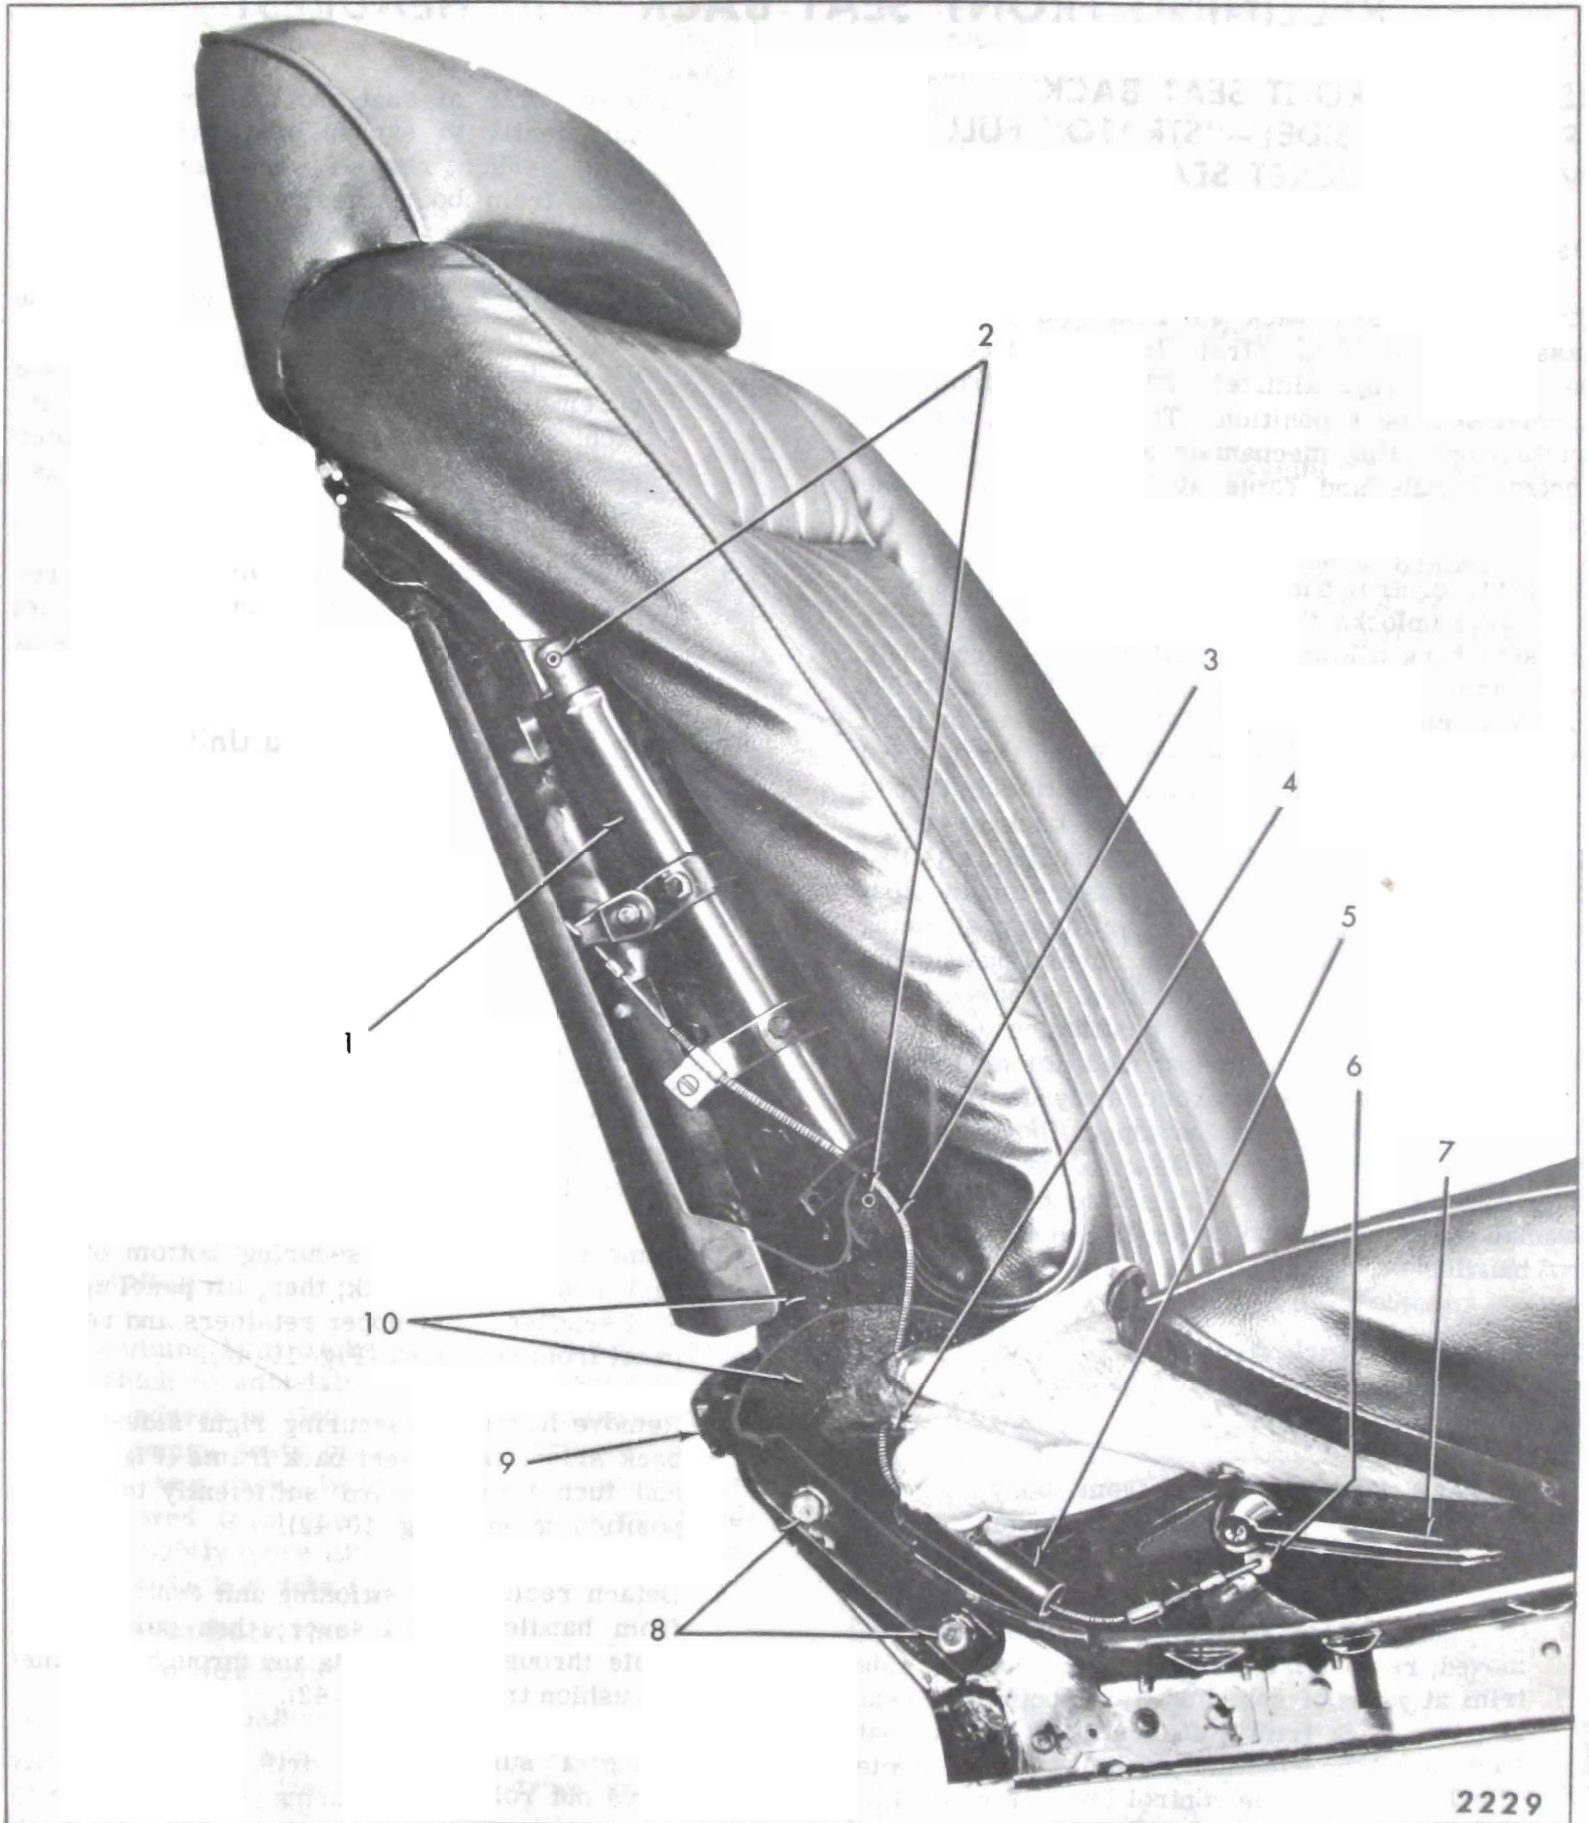
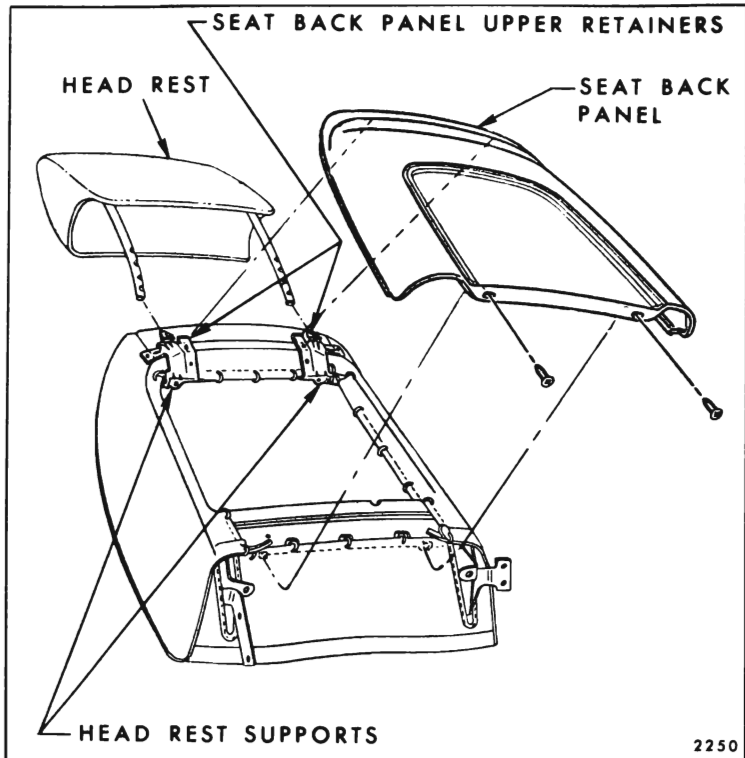

Fig. 10-42—Reclining Seat Back and Positioning Unit
Fig. 10-43—Strato Seat Back Panel and Headrest
2. On right side of seat with seat side panel removed, remove hog rings securing cushion side trim at rear of seat and along bottom of seat and turn back trim sufficiently to expose seat back attaching bolts and reclining control cable attachment at handle control lever (Fig. 10-42).
3. Detach reclining positioning unit control cable from handle control lever; then pull control cable through cable guide and through grommet in cushion trim (Fig. 10-42).
5. To install seat back assembly, reverse removal procedure. Make certain side panel support (Fig. 10-42) is secured under seat back outer attaching bolts.
2. On right side of seat with seat side panel removed, removed hog rings securing cushion side trim at rear of seat and along bottom of seat and turn back trim sufficiently to expose reclining control cable attachment at handle control lever (Fig. 10-42).
3. Remove two screws securing bottom of seat back panel to seat back; then, lift panel upward to disengage from upper retainers and remove panel from seat back (Fig. 10-43).
4. Remove hog rings securing right side of seat back side trim to seat back frame (Fig. 10-43) and turn trim forward sufficiently to expose positioning unit (Fig. 10-42).
5. Detach reclining positioning unit control cable from handle control lever; then pull control cable through cable guide and through grommet in cushion trim (Fig. 10-42).
6. Using a suitable size drift punch carefully drive out roll pins securing positioning unit to support on seat back frame and to seat back hinge (Fig. 10-42); then remove positioning unit from seat back.
2. Remove two screws securing bottom of seat back panel; then, lift panel upward to disengage from upper retainers and remove panel from seat back (Fig. 10-43).